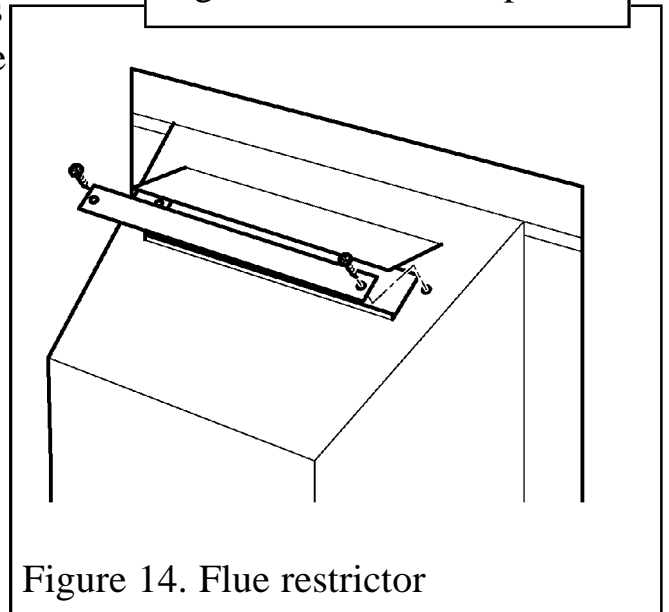

Figure 14. Flue restrictor
14. This appliance is supplied with a flue restrictor for use where the flue draught is excessive. The restrictor must NOT be fitted where a precast flue or a flue liner is used. For all other installations the restrictor should be fitted. There may however, be certain exceptional circumstances where fitting the restrictor causes the fire to fail the spillage test. In such cases the restrictor will have to be removed. After removal conduct the spillage check again. The restrictor is packed loose with the appliance and is fixed with two screws (See figure 14).
‘Fascination’, ‘Aspect Glass’ and ‘Tranquility’ models.: The restrictor has two location holes and a notch along one edge. It is important that the notch is positioned to the top (See figure 14).